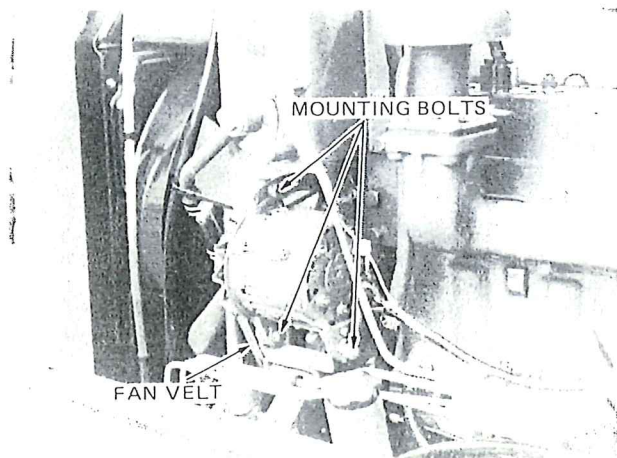

Figure 57 — Alternator Mounting Bolts
1. Loosen the alternator mounting bolts, Figure 57.